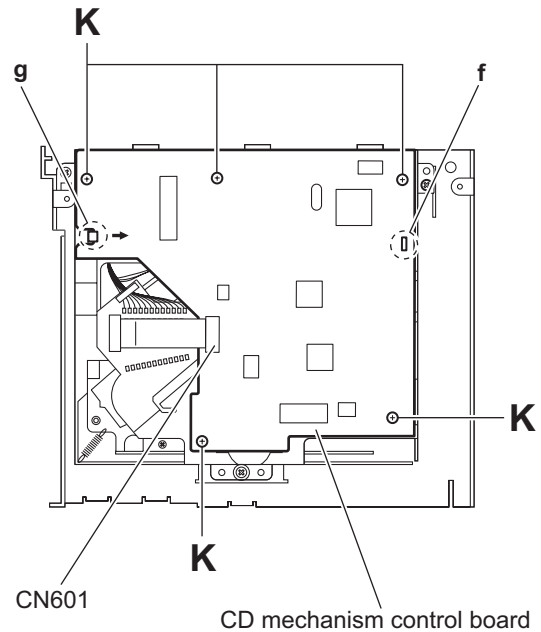

Fig.8
3.1.8 Removing the CD mechanism control board (See Fig.8)